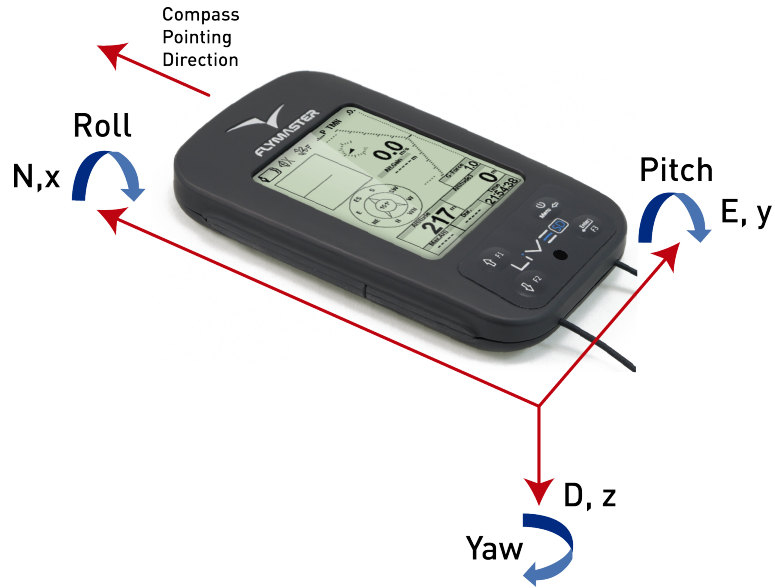
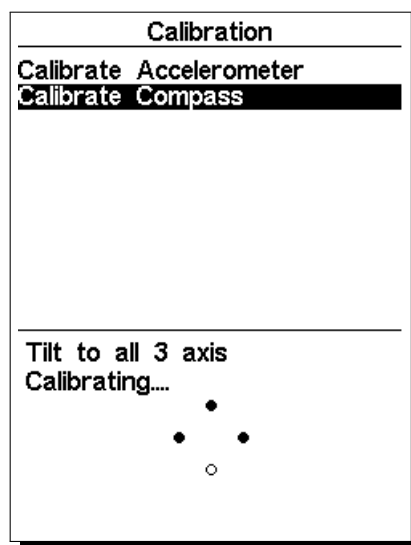

Figure 8.2: Compass Calibration Reference Frame
Figure 8.3: Compass Calibration Indication Points
The magnetometer has 3 axes (Figure 8.2) which are associated with the instrument reference frame. Turning the instrument around each of the 3 axes will change the Yaw, Pitch and Roll angles. In order to make a proper calibration the instrument should be turned/rotated slowly in each of the 3 axis. It is not important to make a complete rotation, or the order in which the turns are made. What is important is that instrument is rotated to vary the Yaw, Pitch and Roll from an angle near -90° to $+90^\circ$. An indication of the calibration procedure state is given using 4 circles that are shown at the bottom of the calibration page (see Figure 8.3). The top and bottom circles are associated with the Pitch angle, while the left and right circles are associated with the Roll angle. When the calibration is initiated all the circles are empty (no color). If the instrument is rotated so that the pitch angle gets close to -90° then the top circle is filled black. Similarly, if the pitch angle gets close to $+90^\circ$ then the bottom circle is filled black. The same thing happens with the left and right circles when the instrument is rotated for the Roll angle. No indication is given for the Yaw angle. The calibration procedure is automatically terminated when all the circles become black. In the figure Figure 8.3 all the circles are black except the bottom one. The complete calibration procedure can be summarized in the following points:
1. Go to Menu->Settings->Calibration and choose the "Calibrate Compass" option (see Figure 8.3);